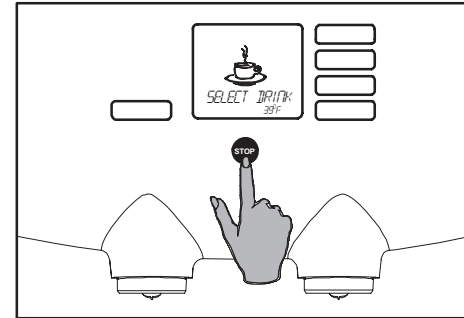

Fig. 20 Stop button
3. Press the stop button (fig. 20) to stop dispensing earlier, for example if you want the cup to be less full.
- The stop button can be pressed at any time to stop dispensing (fig. 20).